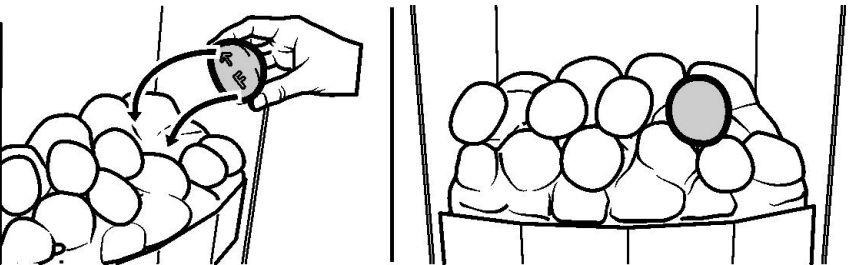

Figure 8.
8. Hold pebble 'F' upright with the arrow pointing to the top. Place pebble 'F' between the front and rear base pebbles. It should bridge the gap between the front and rear base pebbles (See figure 8).